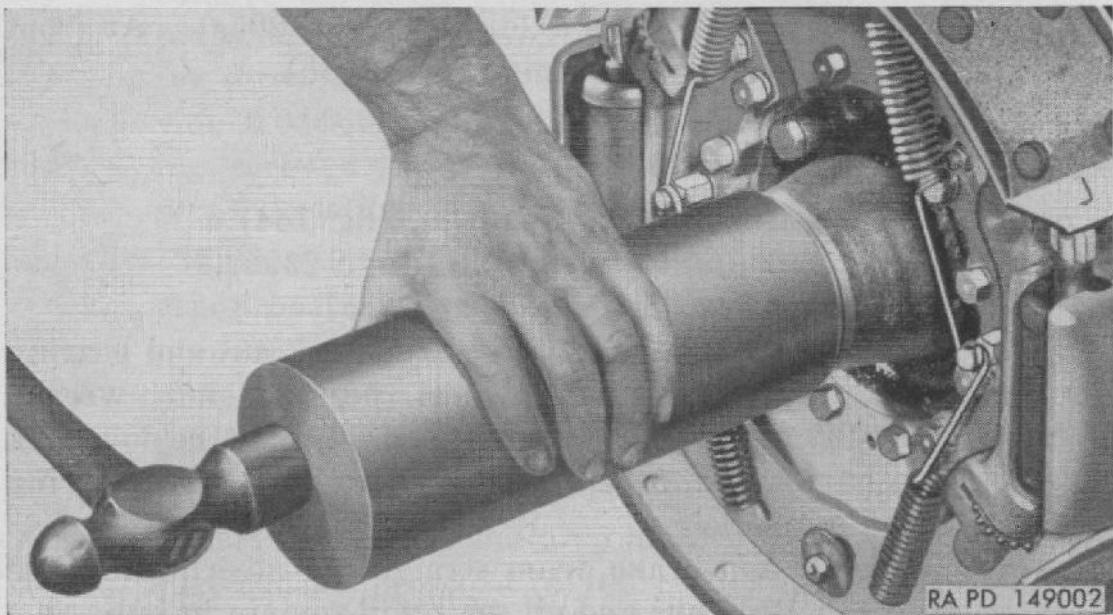

Figure 146. Installing oil seal sleeve (rear shown) using replacer 7950063.
- (1) Examine surface of oil seal sleeve on steering knuckle spindle. If grooved or rough, sleeve must be replaced.
- (2) To remove sleeve, tap sleeve with hammer all the way around the steering knuckle spindle to stretch the metal; then use a blunt chisel to cut into the sleeve inner flange. Partially cut through the flat surface of the sleeve with a blunt chisel; use extreme caution not to cut all the way through the sleeve and mar the surface of the steering knuckle spindle. This should loosen the sleeve sufficiently to permit removal.
- (3) Install new seal, driving it into place with oil seal sleeve replacer 7950063 (fig. 146). Replacer positions sleeve with outer edge flush with bearing shoulder on spindle.